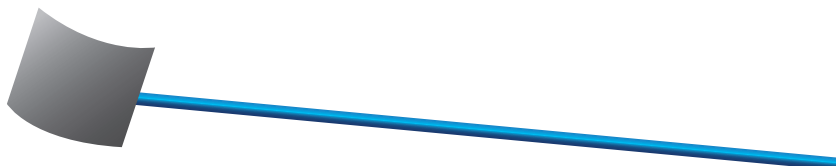

Figure 7. Test Mat
- 6.2 Simulate entrapment by completely plugging off the open suction inlet using a ball, butterfly or a sliding gate valve installed within 2 feet upstream from the pump. You can also simulate entrapment by completely plugging off the open suction outlet / inlet using a 10”X10” rubber mat attached to a long pole or equivalent (See Figure 7). If a mat is used, pull & slide the mat off.